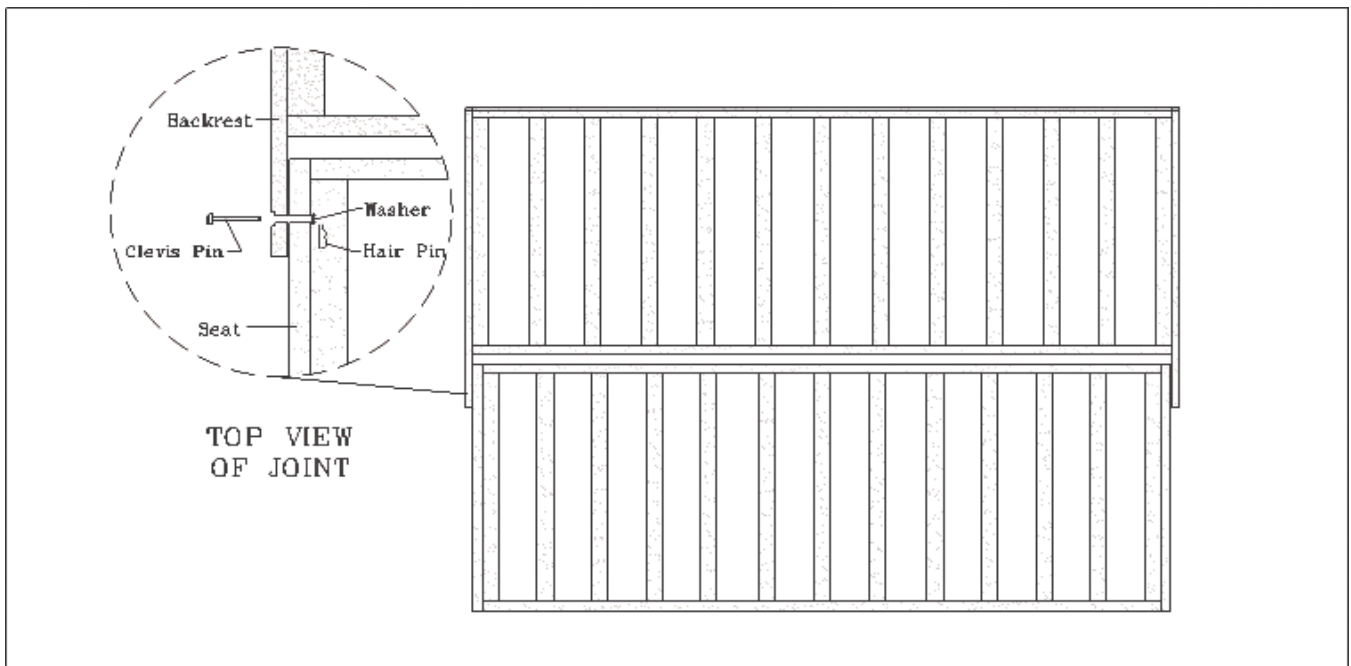

Figure 2
- 3) Line up the hole in backrest with the hole in seat. Push a clevis pin through hole until it bottoms out in backrest. Place a flat washer over the clevis pin and insert a hair pin into clevis pin. Repeat for opposite side (Figure 2).